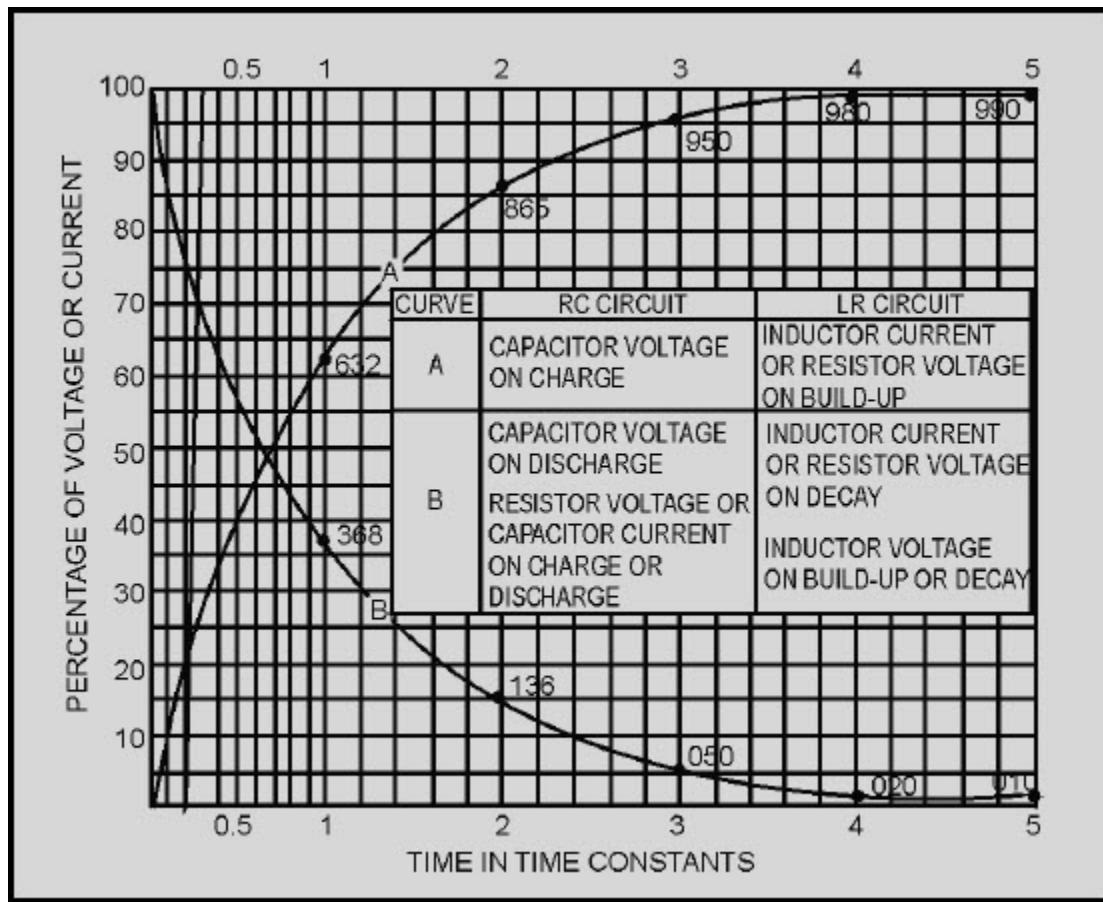

Figure 3-12 Universal time constant chart for RC and RL circuit
Because the impressed voltage and the values of R and C or R and L in a circuit are usually known, a UNIVERSAL TIME CONSTANT CHART (fig. 3-12) can be used to find the time constant of the circuit. Curve A is a plot of both capacitor voltage during charge and inductor current during growth. Curve B is a plot of both capacitor voltage during discharge and inductor current during decay.
Find the value of RC by referring to the universal time constant chart in figure 3-12 and proceed as follows:
*Q15. A circuit is to be designed in which a capacitor must charge to 40 percent of the maximum charging voltage in 200 microseconds. The resistor to be used has a resistance of 40,000 ohms. What size capacitor must be used? (Use the universal time constant chart in figure 3-12.)*